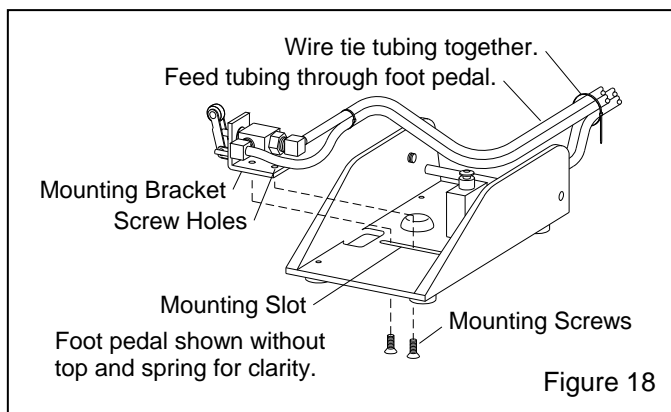

Figure 18
**4.3.3** Refer to Figure 18 and feed the urethane tubing through the foot pedal from the front toward the back and above the top hinge pin.